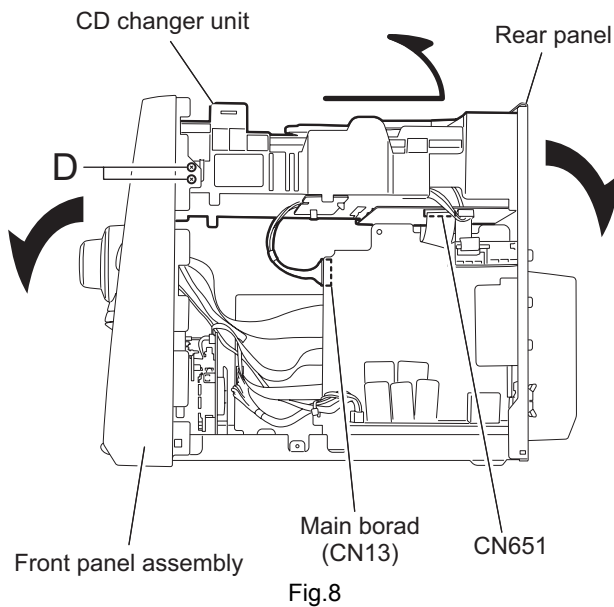

Fig.8
3.1.4 Removing the CD changer unit (See Fig.8 ~10)